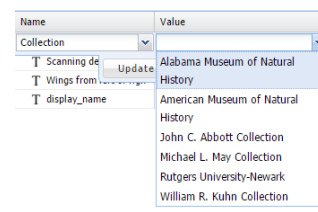

Figure 17. Drop-down menu that appears next to "Collection" in *Textual annotations*.
- b. Click **Import** again and *from template*, and click on "TOWD user metadata template". New items will now appear in the *Name* column (Fig. 17). Double-click in the empty *Value* cell beside "Collection", then click on the down arrow that shows up. Now select the collection from which your specimens have been scanned (e.g. Rutgers University-Newark) and click **Update**. Repeat for the empty cell beside "Scanning device" to select the scanner that you've used to make these images. If you batch of images contains specimens where the right-side wings were separated from the body (typical), you can leave the "Wings from left or right side?" field as the default "right"; otherwise, click the cell next to "Wings from left or right side?" and select "left" to indicate that all images in this batch contain left-side wings. Make sure that all cells under "Value" are filled with the correct values.